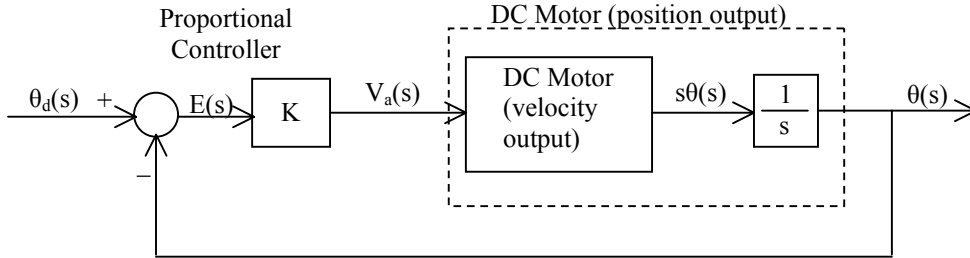

Figure 1: Proportional Position Control of a DC Motor
Applications such as robot joint control often require precise positioning of DC motors. This lab investigates the use of proportional position control for DC motor positioning as shown in figure 1.
2. Create a proportional closed loop position controller as shown in figure 1 using the components of *lab5.vi* for position feedback and components of previous labs for PWM and hardware-timed loops. Keep in mind the following: